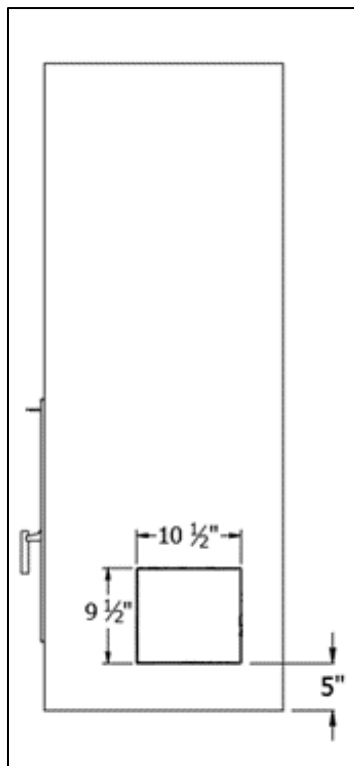

Figure 3-34 Opening for Air Intake
- Determine the two locations of the air intakes on the chase and cut the rectangular openings of 10.5" (W) X 9.5" (H) (Figure 3-34).